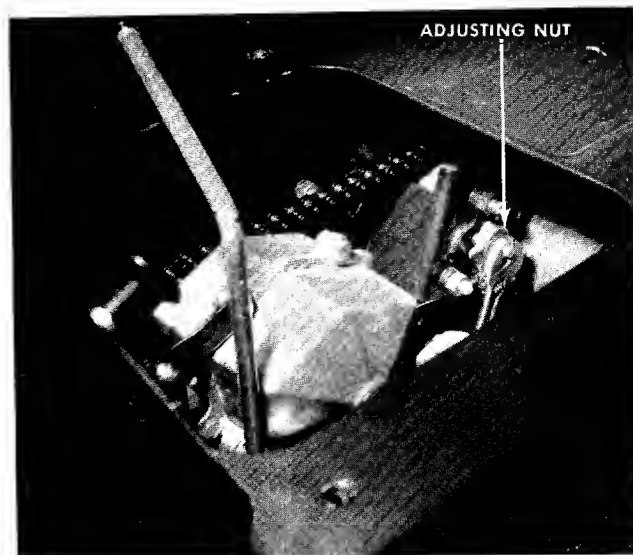

FIGURE 35. BRAKE ADJUSTMENT
- Step 3. Try and push the rider. If the rider can be moved tighten the brake adjustment nut as shown in figure 35.